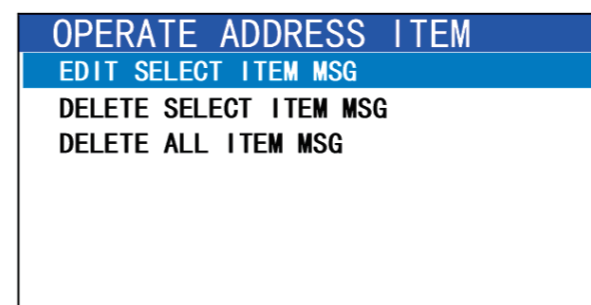

Figure 6.3.1
- b: Rotate the CH/ENT knob to select the entry to edit, then press [ENT] to open the entry operation dialog, as shown in Figure 6.3.1.